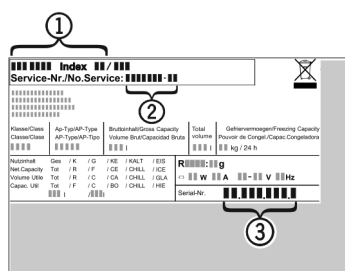

Fig. 3
- Read the appliance designation Fig. 3 (1), service No. Fig. 3 (2) and serial No. Fig. 3 (3) off the model plate located inside the appliance on the left-hand side.
- Notify the customer service, specifying the fault, appliance designation Fig. 3 (1), service No. Fig. 3 (2) and serial No. Fig. 3 (3).